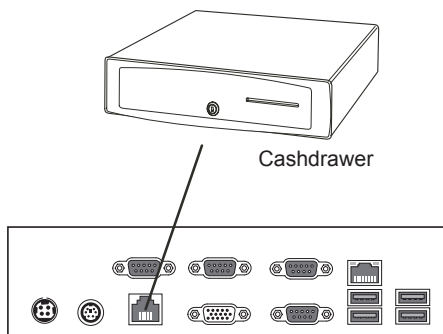

Figure 4.1 Connecting a cash drawer
1. Connect the RJ-11 cable from the cash drawer to the RJ-11 connector on the machine as shown in Figure 4.1.